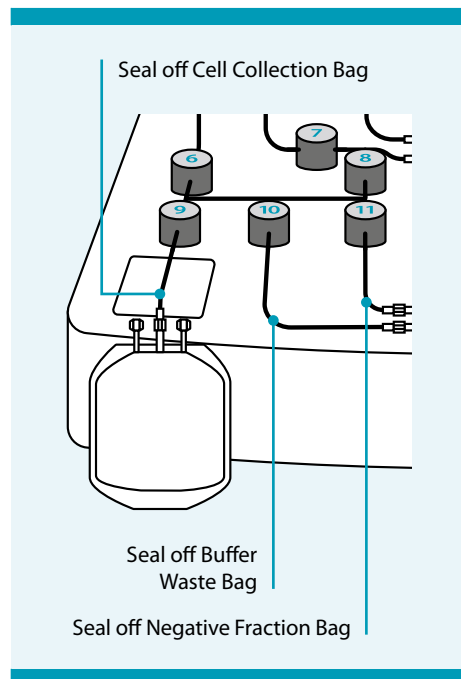

Figure 7.24: Disconnect bags
2. Clamp or seal the tubing above the luer lock connecting the Cell Collection Bag to the tubing set (see Figure 7.24).